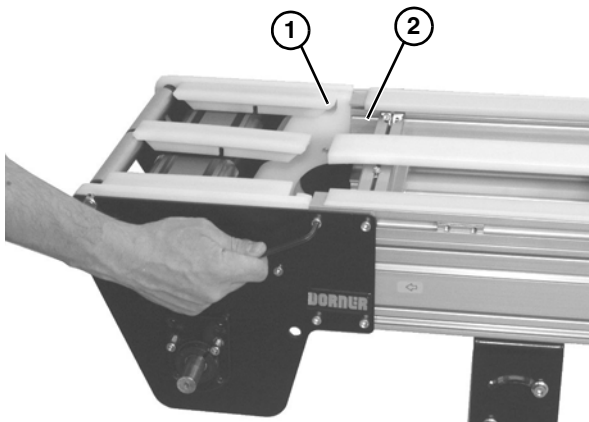

Figure 40
When reinstalling the drive spindle tail assembly, the terminal assembly (Figure 40, item 1) should be flush with the conveyor frame (Figure 40, item 2).